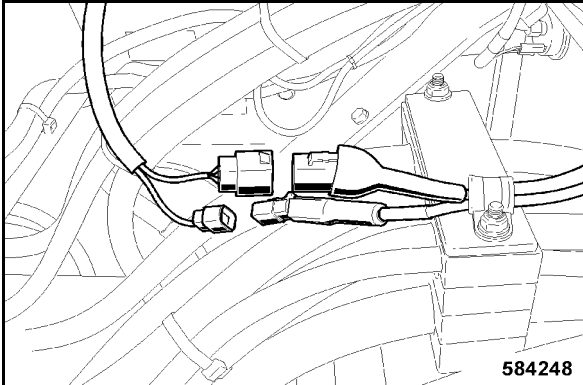

Fig. 226
- Connect the plug connection of the air conditioning system (Fig. 226).